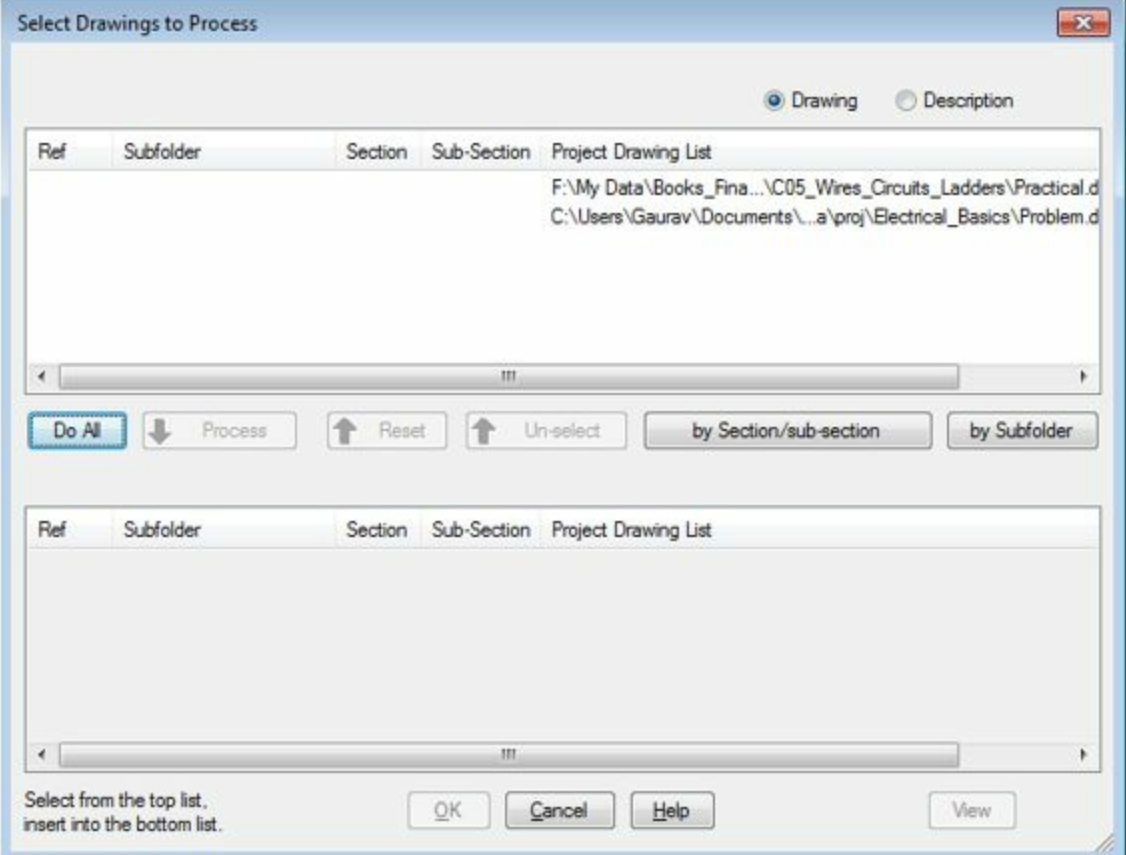

Figure-59. Select Drawings to Process dialog box
- Click in the edit box and specify the desired reference number. Next, click on the **OK** button from the dialog box. The **Select Drawings to Process** dialog box will be displayed; refer to Figure-59.